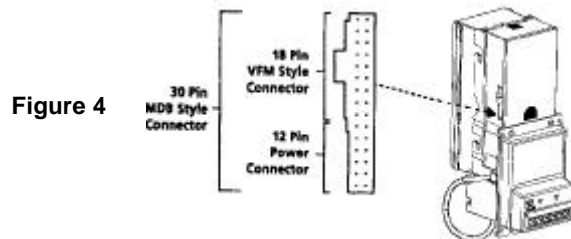

Figure 4
*Note: These harnesses fit onto the male connectors located on the left side of the Bill Acceptor (see Fig. 4) and are designed to connect to the vending machine controller's or coin changer's Bill Acceptor interface harness. For further information on either interface harnesses or mounting kits, please contact your supplier or Mars Electronics Service Center.*
(See Figure 4.) Forcing harness(es) into Bill Acceptor will cause pins to bend or break.